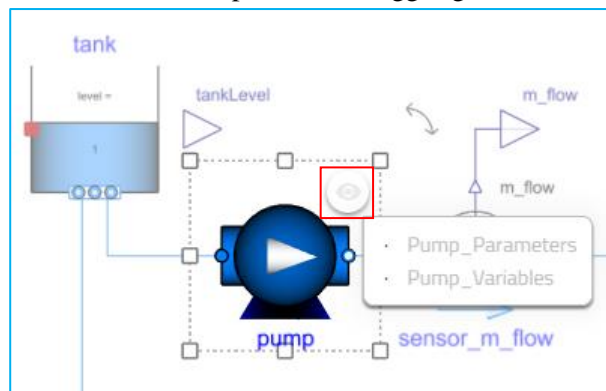

Figure 15 Component views
- Selecting individual components with pre-defined component views, hovering over the view button for that component and toggling them on. See **Figure 15** below.